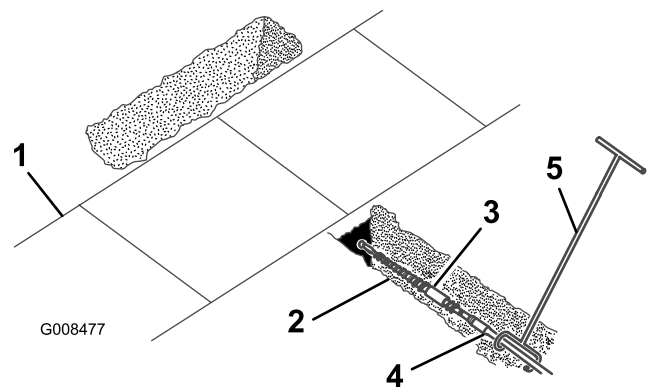

Figure 5
4. Connect the rod guide tool to the rod just behind the boring bit (Figure 5).
5. With the person guiding the boring bit positioned to the right of the trench (Figure 5), start the engine,
6. Slowly move the traction unit forward, while the person with the rod-guide tool guides the boring bit into the soil (Figure 5).